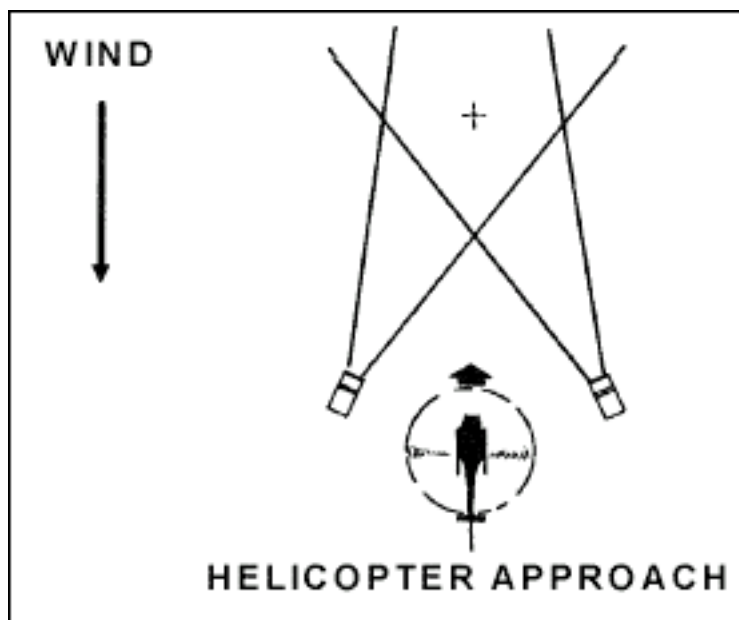

Figure 4-17. Emergency night lighting by vehicle headlights.
(3) Noncargo aircraft require a 5-meter separation between touchdown point and lights, with a 5-meter separation between lights.
(4) Cargo aircraft require a 10-meter separation between touchdown point and lights, with a 10-meter separation between the lights.
e. Vehicle headlights offer one kind of emergency night lighting. Pathfinders place two vehicles about 35 meters apart and 35 meters downwind of the landing point. They shine their headlights so that their beams intersect at the center of the landing point (Figure 4-17). The helicopter approaches into the wind, passes between the vehicles, and lands in the lighted area. This method does not work well for large helicopters.